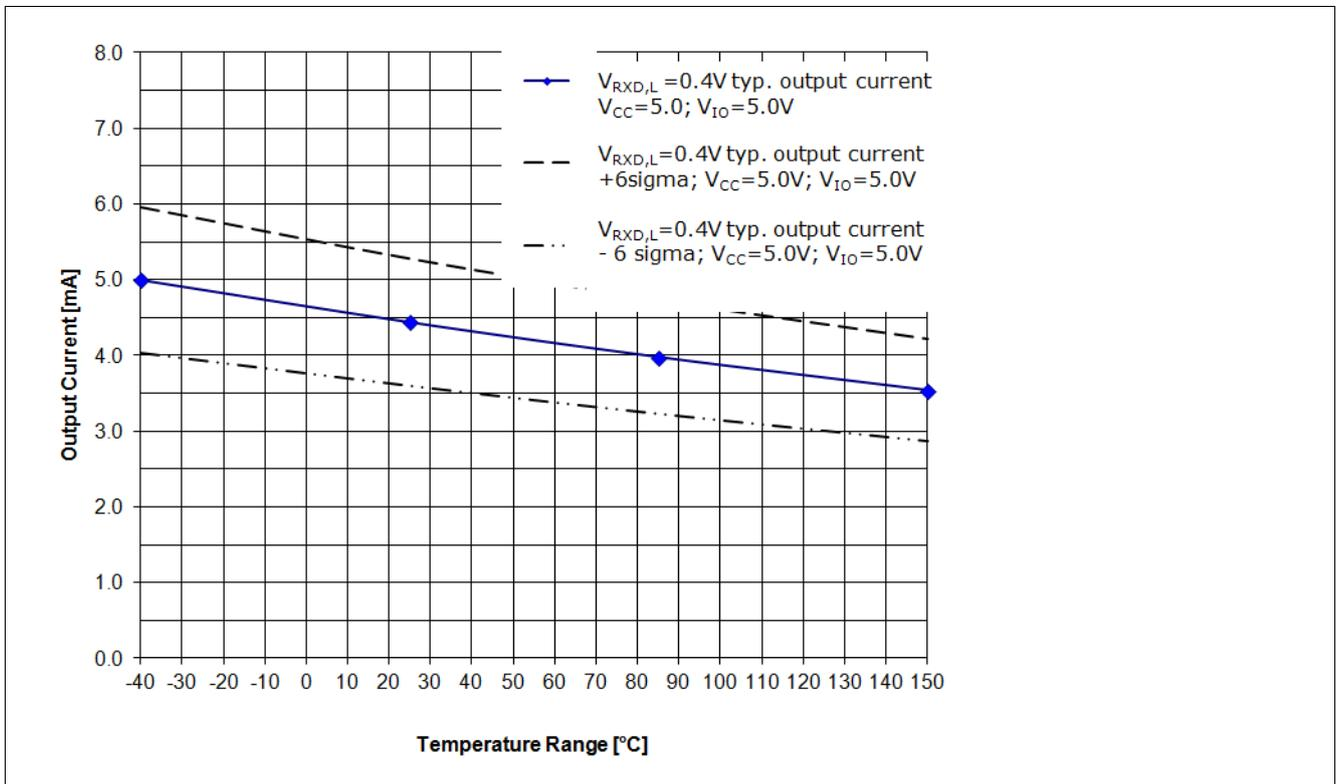
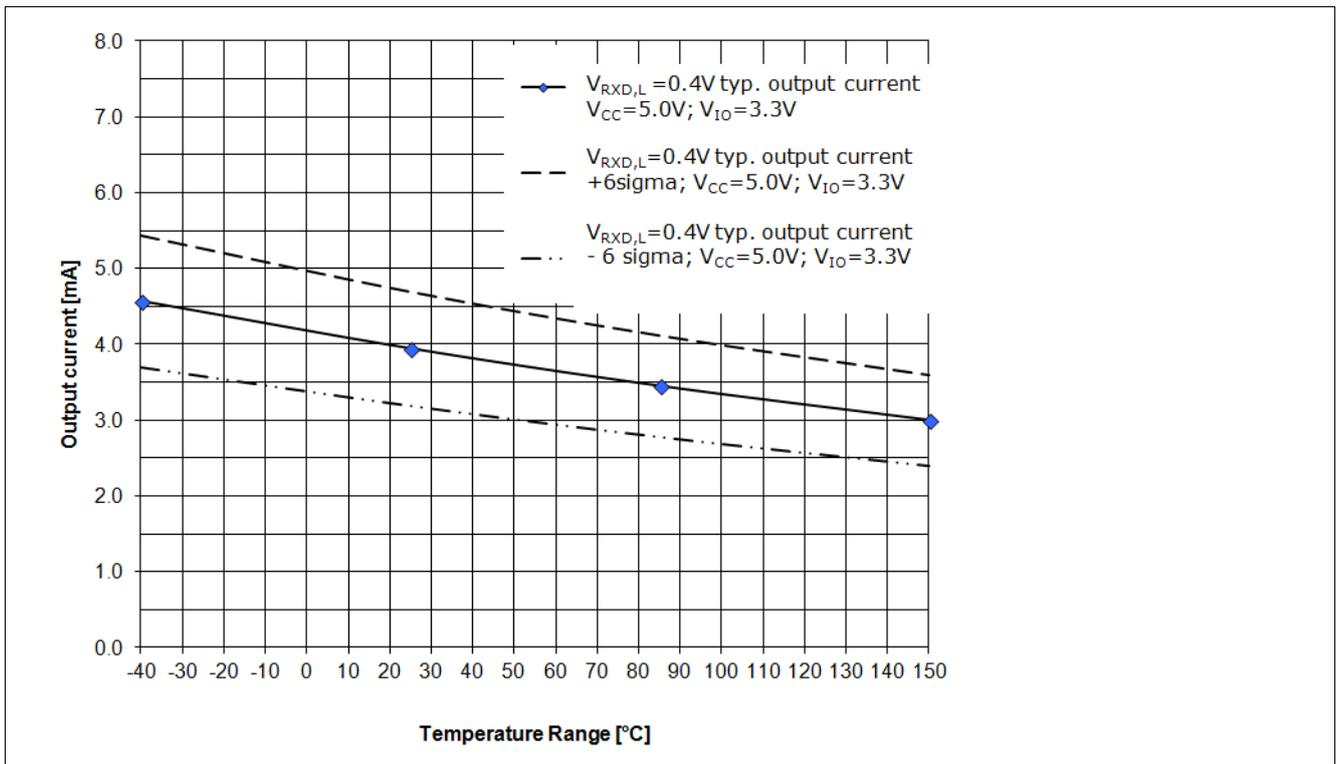

Figure 13 RxD Output driver capability for a logical “Low” signal $V_{\text{RXD,H}}=0.4\text{ V}$, $V_{\text{CC}}=5.0\text{ V}$, $V_{\text{IO}}=5.0\text{ V}^1$
Figure 14 RxD Output driver capability for a logical “Low” signal $V_{\text{RXD,H}}=0.4\text{ V}$, $V_{\text{CC}}=5.0\text{ V}$, $V_{\text{IO}}=3.3\text{ V}^1)$
The diagram in Figure 13 and the diagram in Figure 14 show the current capability of the RxD output pin depended on the chip temperature T_J . Figure 13 shows the current capability of the RxD output pin at a V_{IO} power supply of 5.0 V and Figure 14 shows the current capability of the RxD output pin at a V_{IO} power supply of 3.3 V.
- The curve “VRxD,H = 0.4 V; **typ. output current**; VCC = 5.0 V; VIO =5.0 V;” displays the typical output current at the RxD output pin of the TLE8250GVIO (see Figure 13).
- The curve “VRxD,H = 0.4 V; **typ. output current + 6 sigma**; VCC = 5.0 V; VIO =5.0 V;” displays the expected maximum value of the output current at the RxD output pin (see Figure 13).
- The curve “VRxD,H = 0.4 V; **typ. output current - 6 sigma**; VCC = 5.0 V; VIO =5.0 V;” displays the expected minimum value of the output current at the RxD output pin (see Figure 13).
- The curve “VRxD,H = 0.4 V; **typ. output current**; VCC = 5.0 V; VIO =3.3 V;” displays the typical output current at the RxD output pin of the TLE8250GVIO (see Figure 14).
- The curve “VRxD,H = 0.4 V; **typ. output current + 6 sigma**; VCC = 5.0 V; VIO =3.3 V;” displays the expected maximum value of the output current at the RxD output pin (see Figure 14).
- The curve “VRxD,H = 0.4 V; **typ. output current - 6 sigma**; VCC = 5.0 V; VIO =3.3 V;” displays the expected minimum value of the output current at the RxD output pin (see Figure 14).